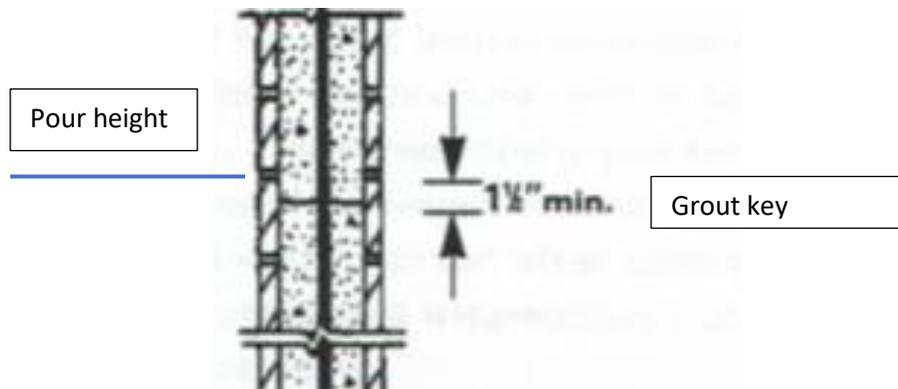

Figure 3 – Grout key
- The cells are then filled with masonry grout and consolidated. If the pour is over 12 inches high, consolidation requires mechanical vibration. The grout should be held down about 1-1/2 inches from the top to form a grout key (Figure 3) so subsequent pours will interlock with this pour. **Note:** beams and lintels don’t require a grout key.